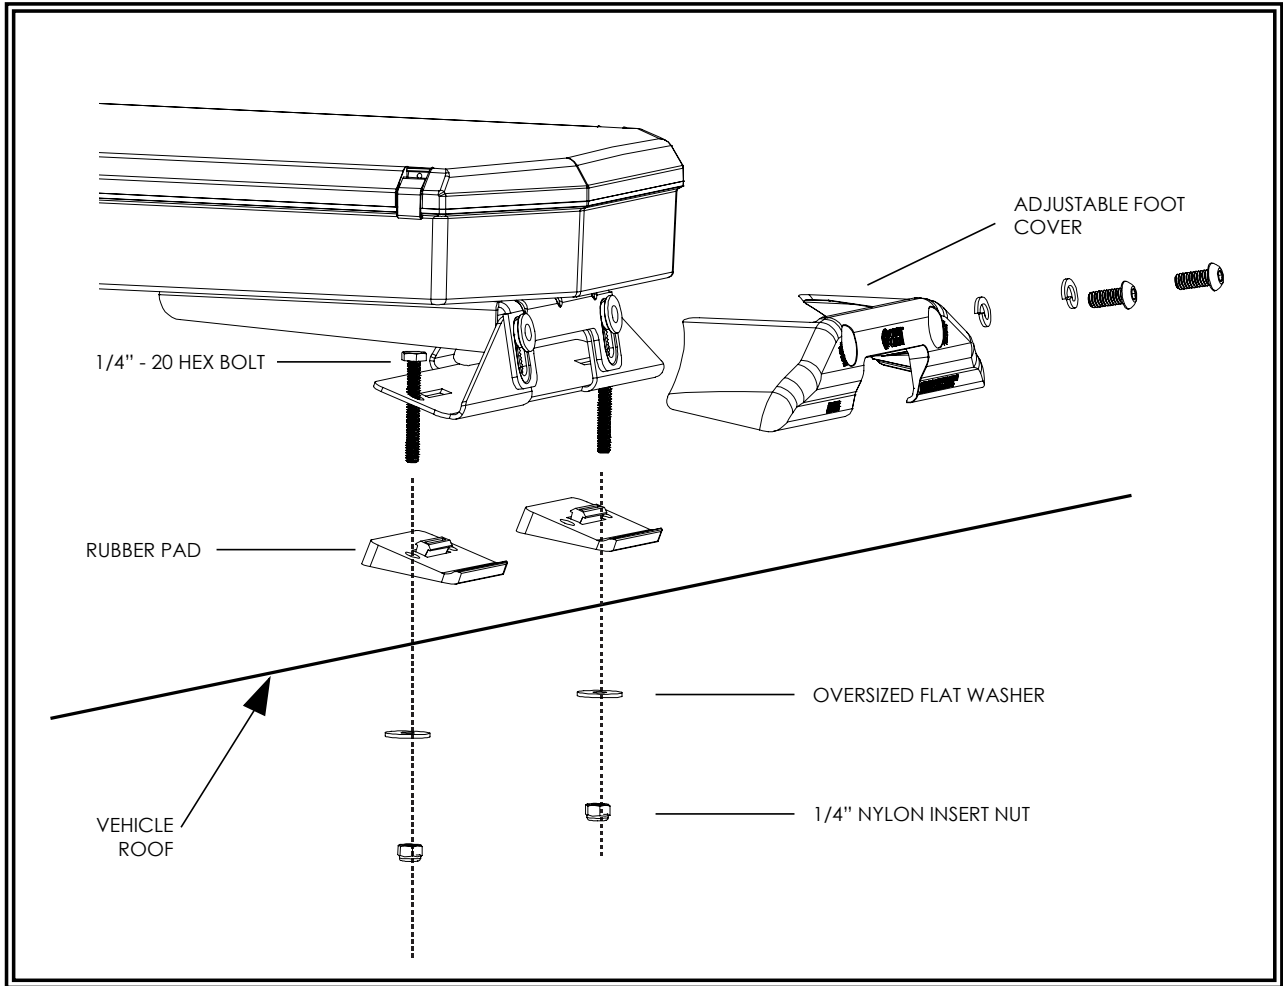
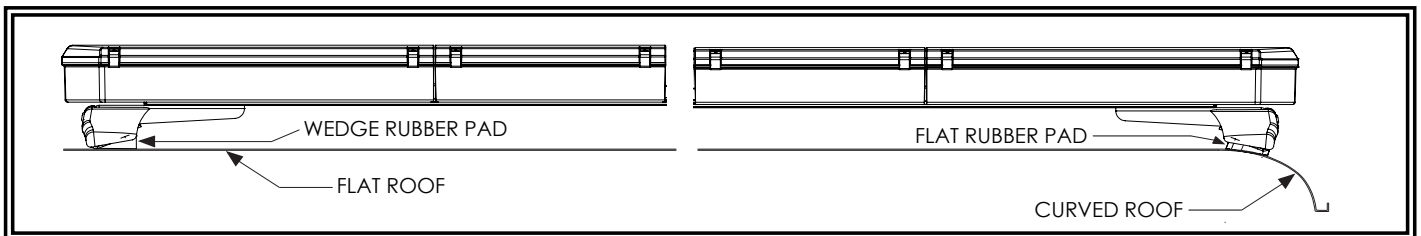

FIGURE 1
FIGURE 2
4. Attach the appropriate foot pad for the curvature of the roof surface per FIGURE 2. Secure the lightbar feet to the vehicle using the supplied 1/4"-20 hardware and reattach the adjustable foot cover as shown in FIGURE 1. See the Wiring section of this manual for further wiring instructions.